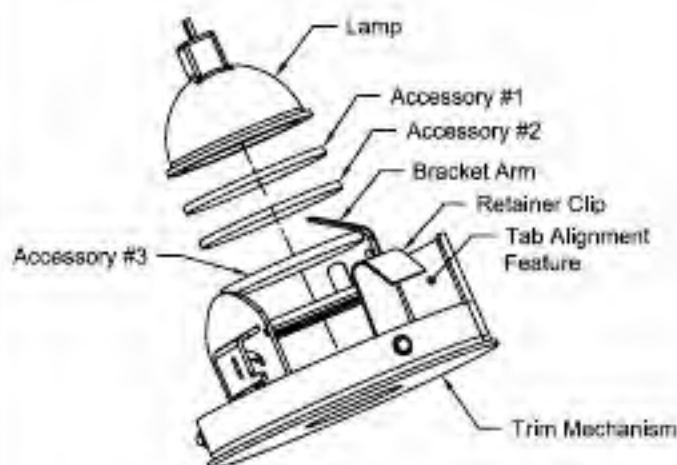
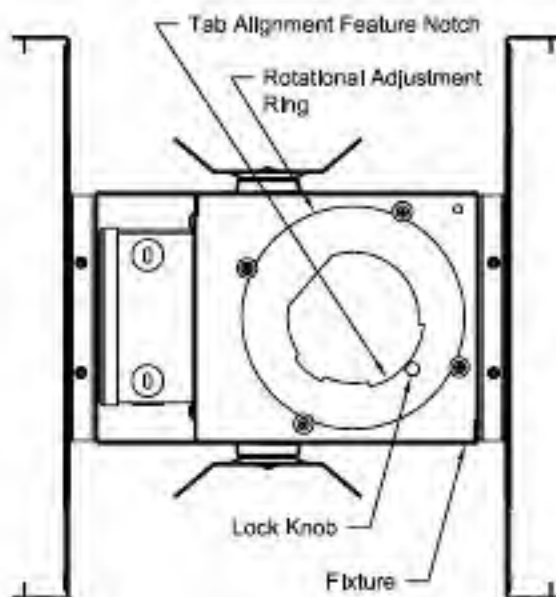

Figure 3
Figure 5
*Lamp Bracket accommodates from one (1) to three (3) accessories.
2. Slide out Lamp and/or Accessories from under Bracket Arm to remove. See Fig. 3.
4. To ensure original light beam placement, align Tab Alignment Feature on Trim Mechanism (See Fig. 3 & 4) with Tab Alignment Feature on Rotational Adjustment Ring Inside Fixture (See Fig. 5).
1. With power ON and Trim Mechanism in place, Insert **Phillips Head Screwdriver** through Hole or Slot in Trim into Bearing Funnel. See Fig. 5.
2. To re-aim Lamp, turn #6-32 Flathead Screw to desired position using visual Angle Indicators on Banana Bracket. See Fig. 5.
3. Tighten Lock Knob inside Fixture to lock Rotational Adjustment Ring. See Fig. 5.